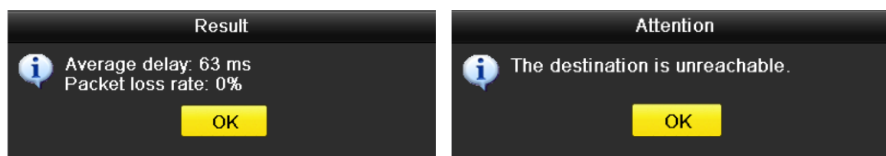

Figure 10-25 Testing Result of Network Delay and Packet Loss
Step 4 Click **Test** button to start testing network delay and packet loss. The testing result pops up on the window. If the testing is failed, the error message box will pop up as well. Refer to Figure 10-25.